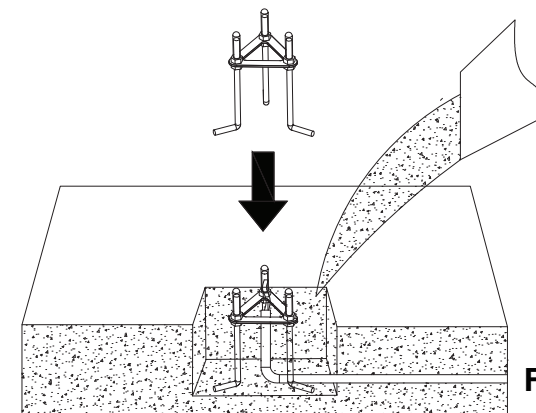
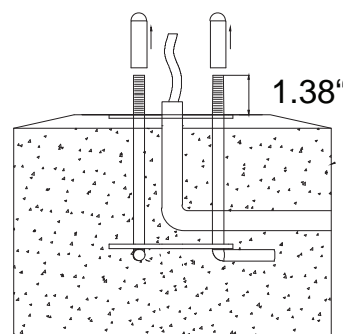

Fig3
Fig4
- Sink the anchor bolts into the concrete as Fig3 leaving the threaded portion 1-1/2~2" as Fig4 above the cement . And remove the silicon caps.